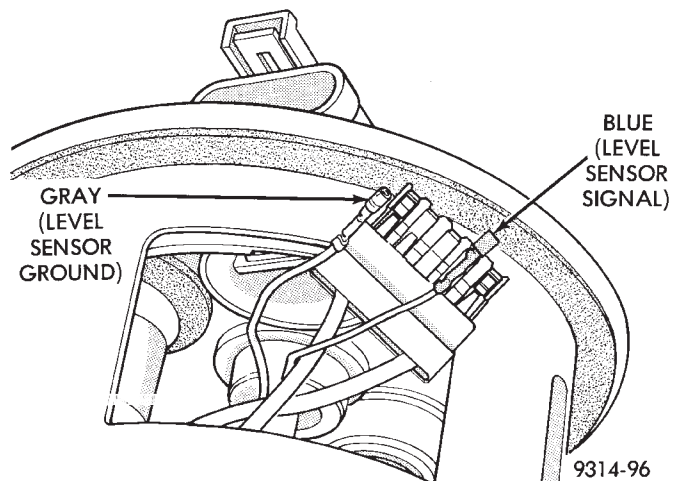

Fig. 33 Level Sensor Signal and Ground Wires
(3) Using special tool 7812 or an equivalent, push level sensor signal and ground terminals out of the connector (Fig. 33).